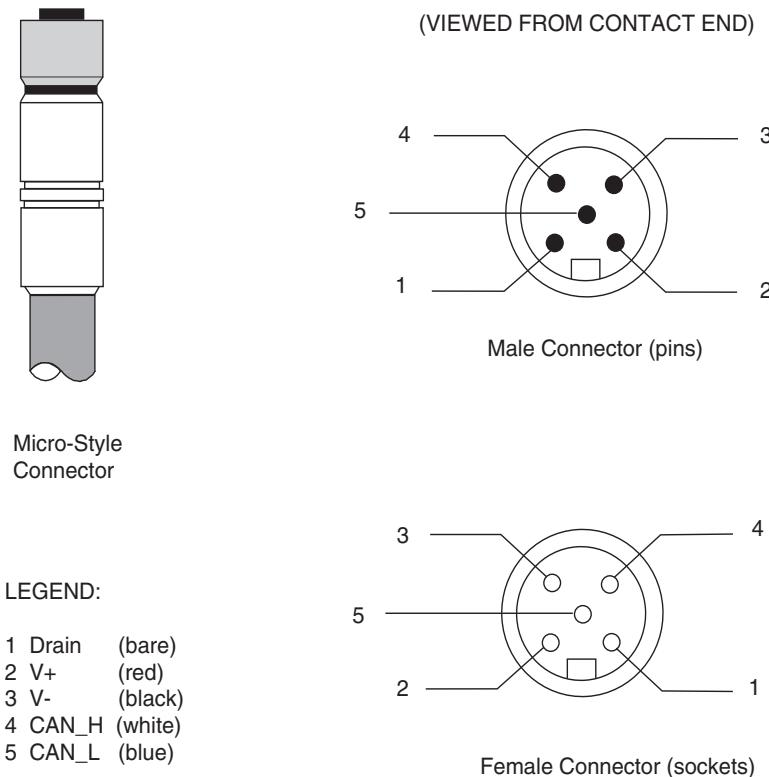

Figure 6-15. Micro-Style Connector Pinouts for DeviceNet
- Female micro-style 12 mm thread DIN connector for joint 2 of the robot. See Figure 6-3 and Figure 6-15. .